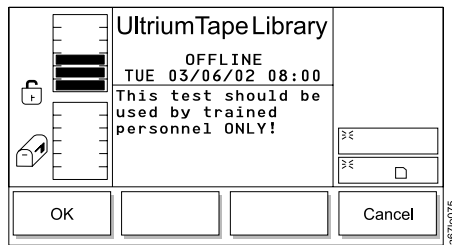

Figure 310. Step Dialog
6. Press the button below the **Step** softkey. The Step Dialog displays a reminder that this diagnostic should be used by trained personnel only (see Figure 310 on page 210).